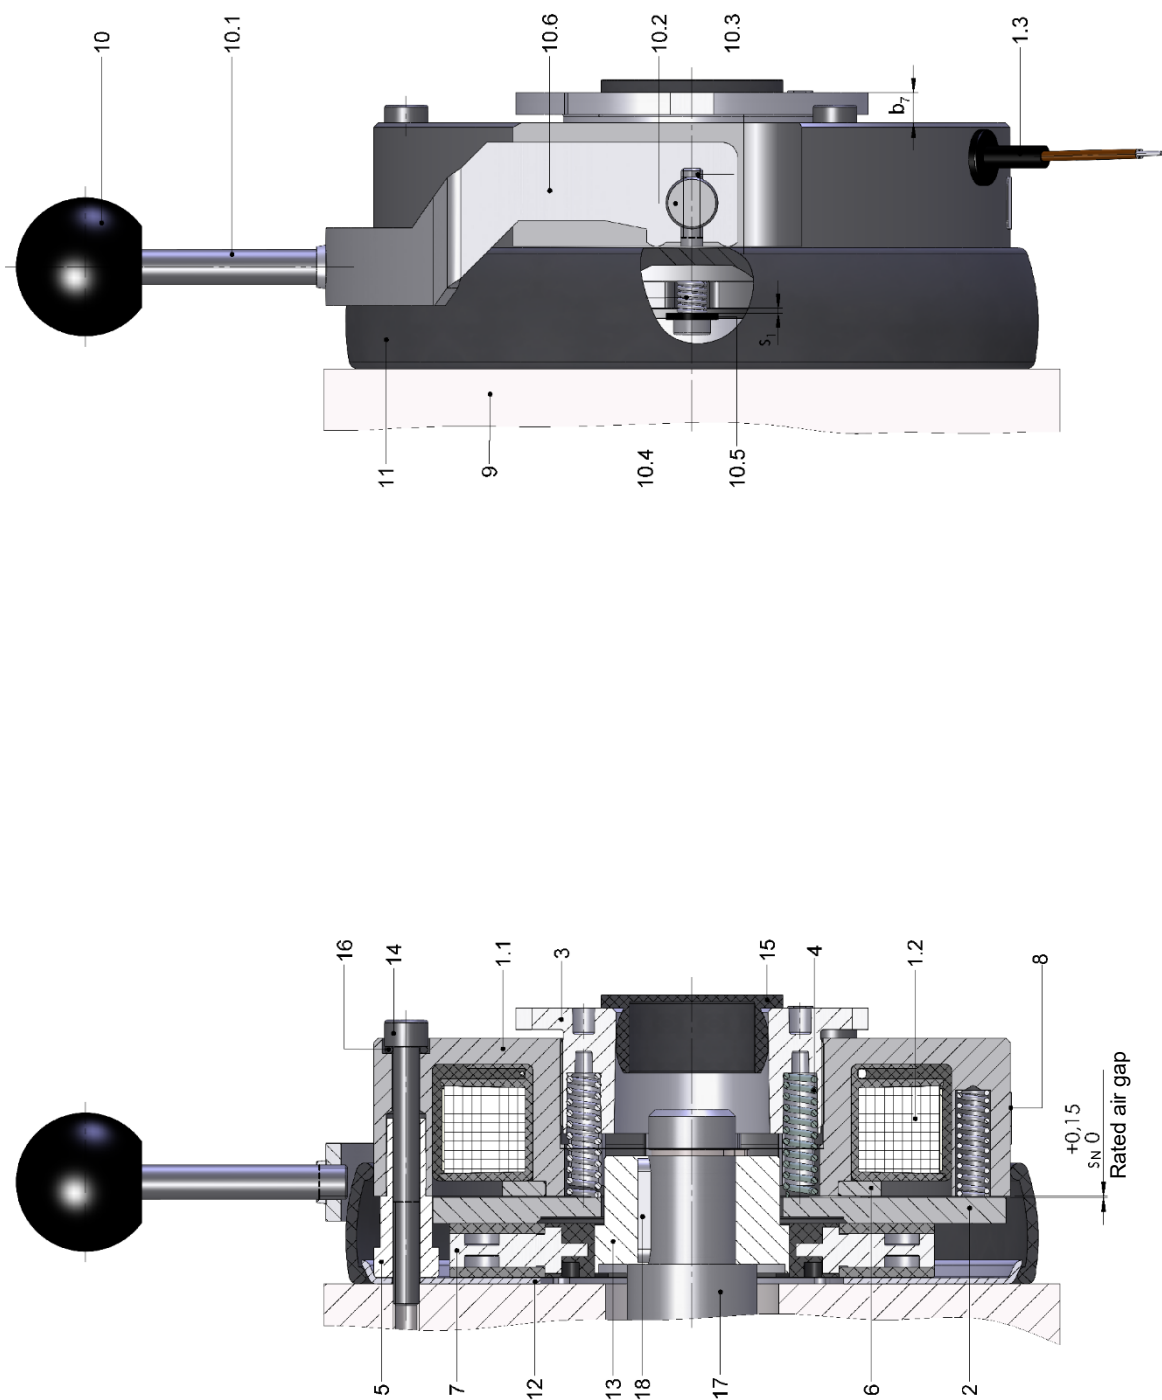

Fig. 6/1: Spring-applied single-disc brake 76 431..H00
The solenoid housing (1.1) of the spring-applied single-disc brake accommodates the firmly fitted field coil (1.2) with connecting cable (1.3) – which exits on the brake circumference – and the compression springs (4). The compression springs (4) press the friction disc (7) over the armature (2) against the friction plate or flange¹⁾ (12) and thus against the mounting surface (9) (e.g. motor end shield). The frictional connection obtained in this manner between the friction surfaces of the friction disc (7) and armature (2) or friction plate (12) / flange (12) produces the braking effect of the spring-applied brake. The rated air gap 's_n' is factory-adjusted by means of the spacer sleeves (5). The spacer sleeves (5) are tightly pressed into the solenoid housing (1.1). They ensure that the armature (2) is kept in a fixed tangential position. The friction disc (7) is connected with the hub (13) via a spline connection or square socket ²⁾. This connection ensures that the friction disc (7) is tangentially fixed, but movable in axial direction. The hub (13) is firmly fixed to the shaft (e.g. motor shaft) (17). The brake is firmly mounted to the mounting surface (9) (e.g. motor end shield) with the mounting screws (14) (see Fig. 6/1). When DC voltage is applied to the brake field coil (1.2), the force of the electromagnetic field thus generated counteracts the spring force of the compression springs (4). The armature (2) is moved axially towards the solenoid housing (1.1) and the braking action is neutralized. The shaft to be braked (17) (e.g. motor shaft) is not exposed to any axial loads exerted by the spring-applied single-disc brake. When using spring-applied single-disc brakes with hand release (10), openings must be provided in the part enclosing the brake (e.g. fan cover) so that the hand release can be installed. The hand release (10) allows the brake to be released manually (e.g. in case of power failure). When a collar (11) is fitted to the brake, the hand release (10) can only be operated by pushing the lever away from the mounting surface (9).
List of reference numerals in Fig. 6/1:
Insert the 2 tie bolts (10.2) into the bores provided in the yoke (10.6). Push the yoke (10.6) with the inserted tie bolts (10.2) into the cavity provided in the spring-applied single-disc brake. (Only brakes with hand release option will have this cavity.) Push the 2 discs (10.5) and the 2 return springs (10.4) on a socket head cap screw (10.3). Apply Loctite 241 to the 2 socket head cap screws (10.3). Insert the screws with the discs (10.5) and return springs (10.4) through the bores provided in the solenoid housing (1.1) and fasten them with the 2 tie bolts (10.2). Use a feeler gauge to adjust the distance s_1 (see Table 8/1 and Fig. 6/1) when the brake is released (attracted armature (2)). Check that s_1 is not exceeded and that it is evenly adjusted on both socket head cap screws (10.3). Screw the hand release lever (10.1) into the yoke (10.6) and secure it by applying Loctite 241. The required actuation forces F and the maximum permitted actuation forces $F_{\max}$ are specified in Table 8/1. The specified actuation forces F apply at the maximum rated torque (standard).
Check that the hand release (10) is in a central position (see Fig. 6/1) when not in use. This is crucial to ensure reliable brake engagement. Otherwise, the full braking effect of the spring-applied single-disc brake may not be reached. In this case, the machine (e.g. motor) must be stopped immediately and must not be restarted until correct operation of the hand release (10) and automatic return of the hand release lever in its central position (see Fig. 6/1) has been ensured.
Pull the collar (11) over the solenoid housing (1.1). Check that the sealing lip of the collar (11) is located precisely between the friction plate (12) and the mounting surface (e.g. motor end shield) (9) on the mounting surface side or precisely in the flange (12) groove (sizes 19 to 29) (see Fig. 6/1). Ensure that on the brake side the collar (11) sealing lip touches the circumference of the solenoid housing (1.1) or is located in the groove (sizes 19 to 29). When a collar (11) is fitted to the brake, the hand release (10) can only be operated by pushing the lever away from the mounting surface (e.g. motor end shield) (9).
The screw plug (15), if used, must be inserted into the shaft opening on the rear of the brake (see Fig. 6/1).